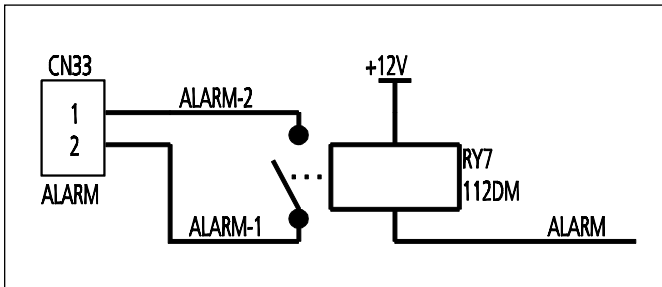

Figure 38
1. The terminal port is available to connect ALARM, but power supply is not from the Indoor Unit (Fig. 38).